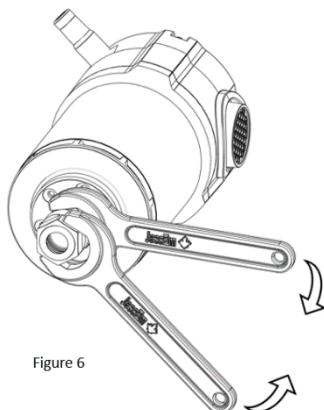

Figure 6
5. To tighten the bit in the collet assembly, use two wrenches (Fig. 6).